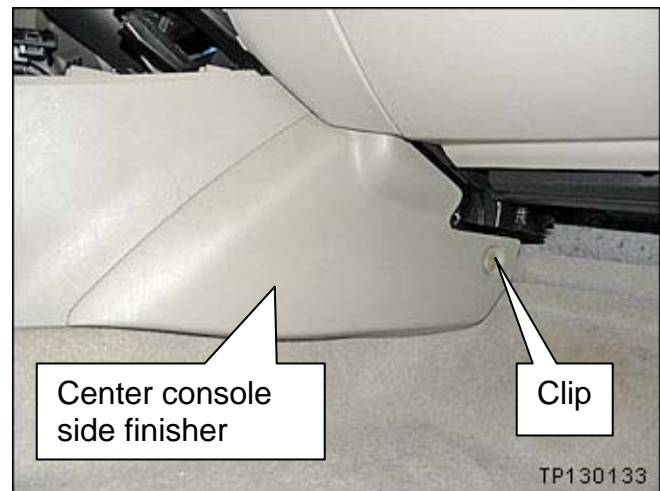

Figure 7
- a. Remove the clip shown in Figure 7.